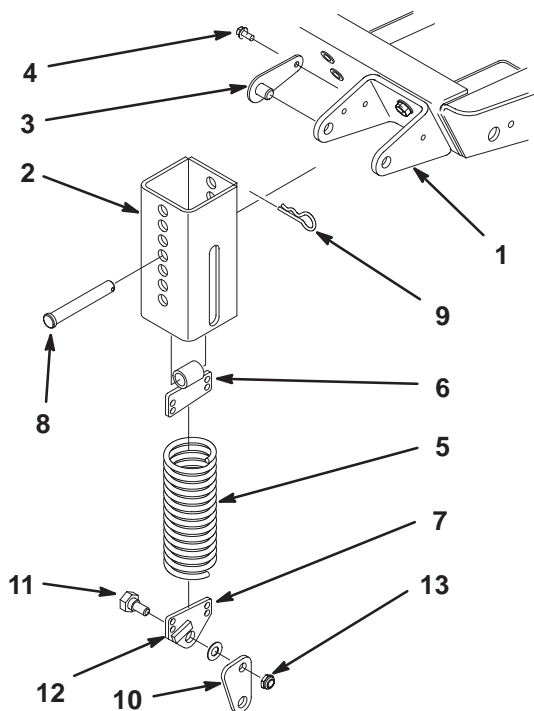
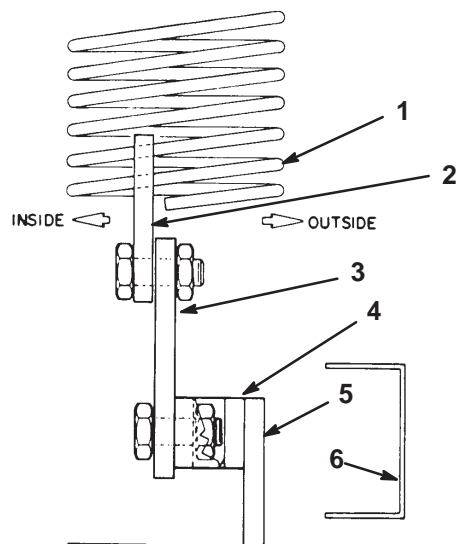

Figure 6
Figure 8
- Thread the top extension spring coil into the top spring end holes and the bottom extension spring coil into the bottom spring end holes (Fig. 6).
3. Mount each knee link to the lower spring end with the wide part of the knee link pointing forward and the spring end stop pointing forward. Secure the knee link to the outer side of the spring end (Fig. 8) with a shoulder bolt, washer, and locknut (Fig. 6 and 7).
5. Align the slotted holes in the spring cover (slot toward the bottom) with the mounting bracket holes. Insert the lock pin assemblies into the bracket holes and secure each to the bracket with the self-tapping screws (Fig. 6). Torque the screws to 20 ft.-lb. (27 N·m).
6. From the bottom, insert the spring and top spring end into the spring cover. Select a hole that matches the cutter deck height-of-cut setting; i.e., the top cover hole matches the highest height setting, the bottom cover hole the lowest, etc. Align the top spring end hole with the selected spring cover holes and insert the clevis pin to secure the spring inside the cover (Fig. 6). Secure the clevis pin with a hairpin cotter.
- Mount each knee link to the lower spring end with the wide part of the knee link pointing forward and the spring end stop pointing forward. Secure the knee link to the outer side of the spring end (Fig. 8) with a shoulder bolt, washer, and locknut (Fig. 6 and 7).
- From the bottom, insert the spring and top spring end into the spring cover. Select a hole that matches the cutter deck height-of-cut setting; i.e., the top cover hole matches the highest height setting, the bottom cover hole the lowest, etc. Align the top spring end hole with the selected spring cover holes and insert the clevis pin to secure the spring inside the cover (Fig. 6). Secure the clevis pin with a hairpin cotter.